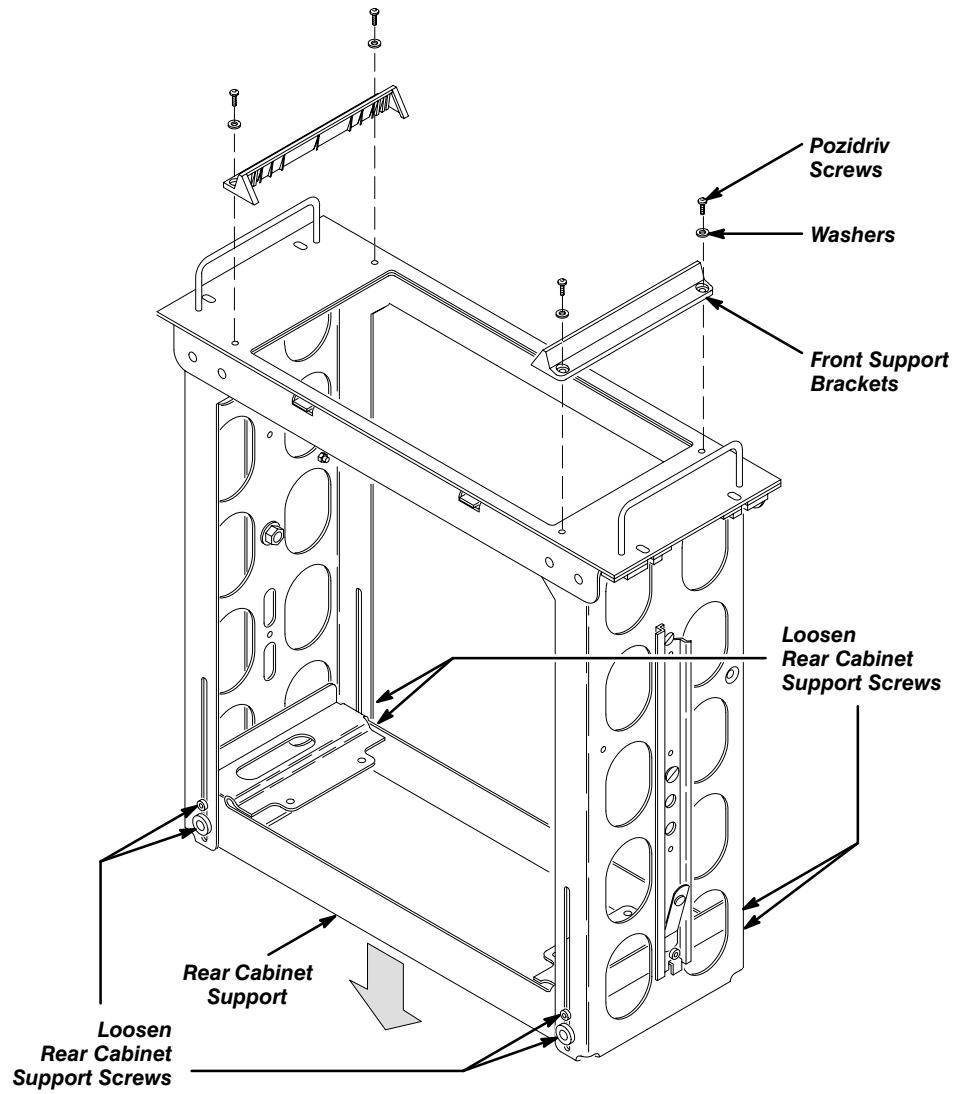

Figure 7: Preparing the Rack Adapter for the Instrument
- b. On the rack adapter, loosen (but do not remove) the four screws with lock washers and the four screws with nylon washers that secure the rear cabinet support in position. See Figure 7.